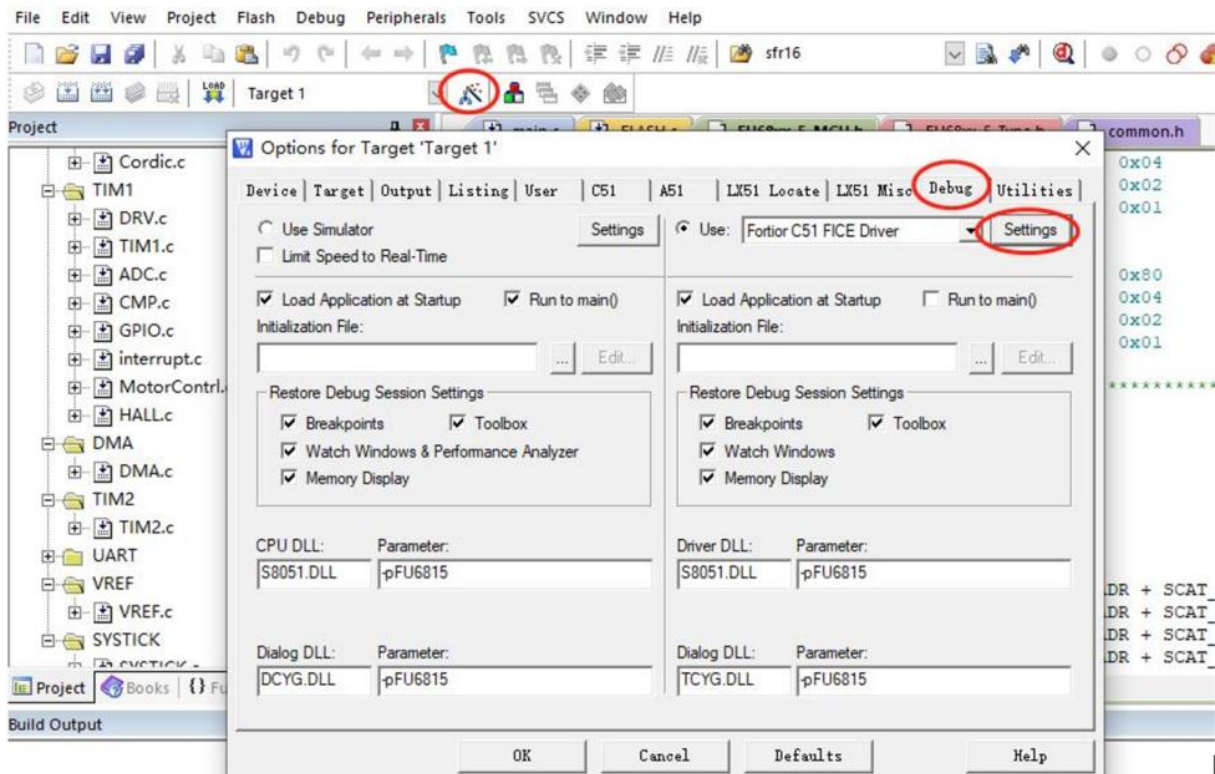

Figure 33-1 Code Protection Configurations
1. Start 8051 IDE, enter Target Options and select Debug tab. As shown in Figure 33-1, click Settings to proceed with the setting;